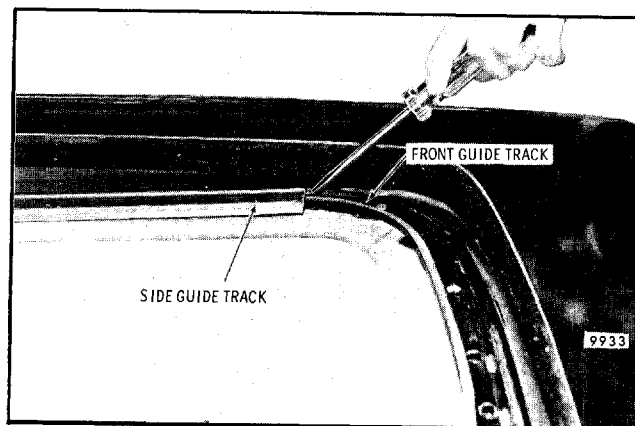

Fig. 8-99-Checking Front to Side Guide Track Alignment - C Styles
4. Check horizontal alignment to side guide track and adjust as necessary (Fig. 8-99).